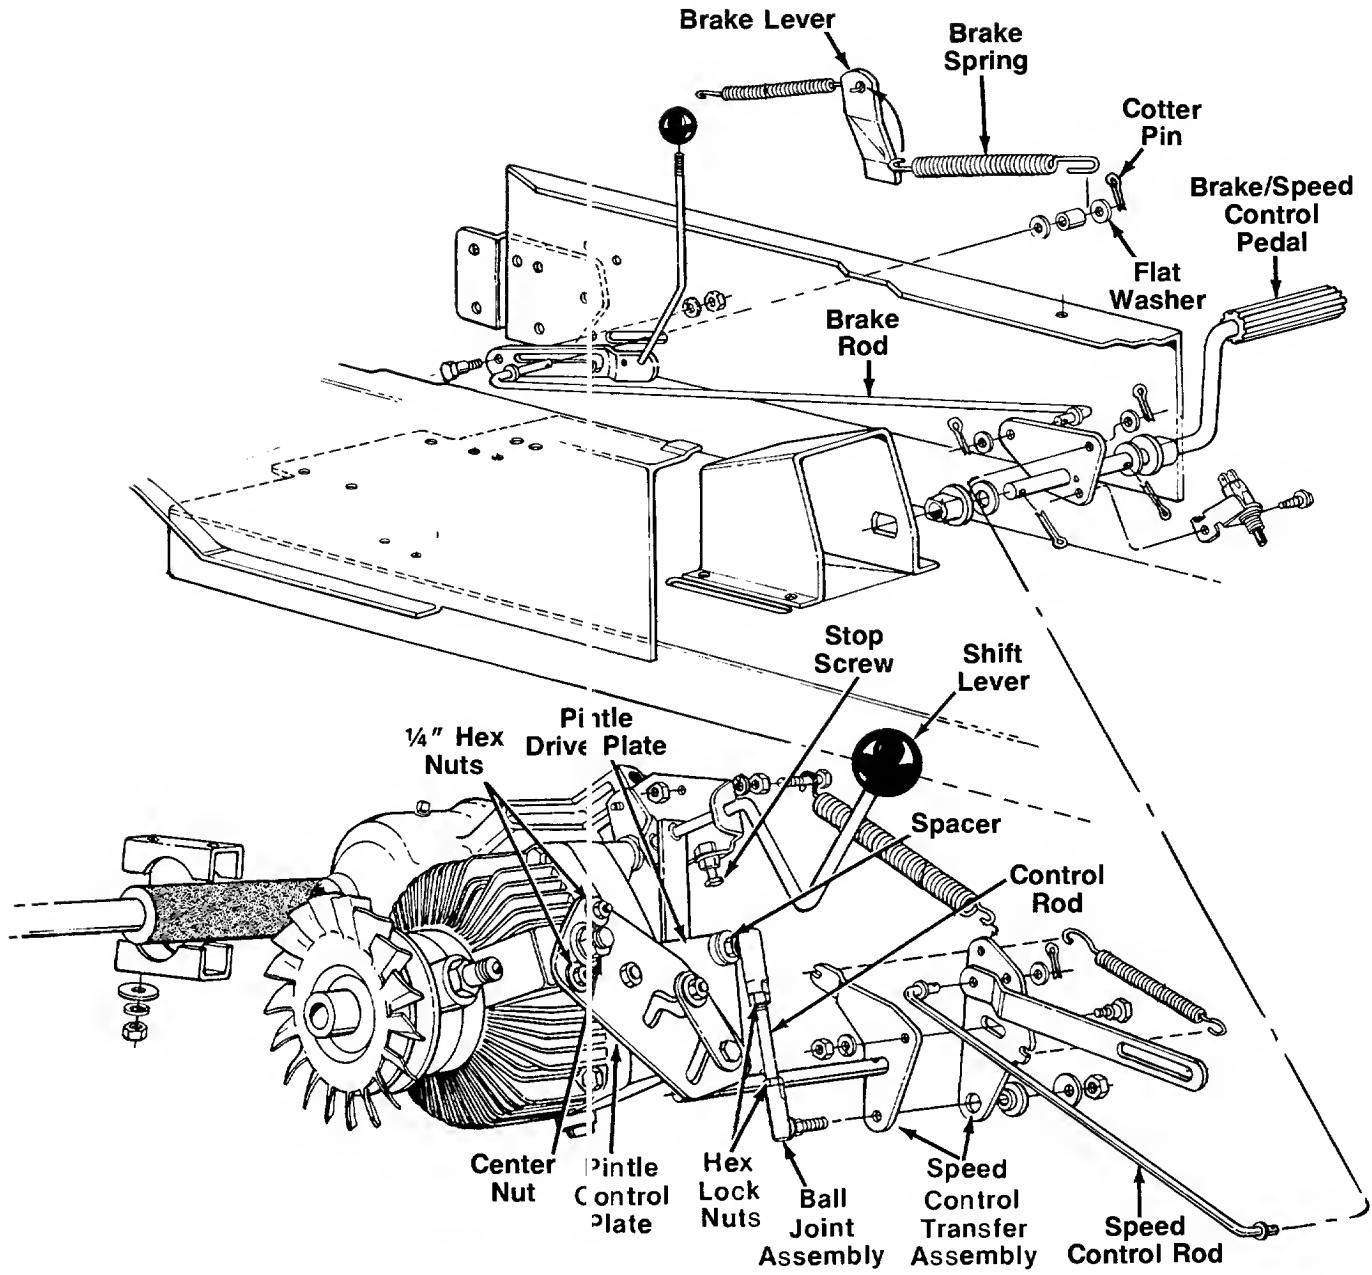

FIGURE 10.
(See figure 10)
5. Move shift lever to forward position, and move pintle control plate to fast forward (position shown in figure 10). Be certain to hold the pintle control plate in this position as you tighten the hex nuts in steps 6 and 7.
NEUTRAL ADJUSTMENT (See figure 10)